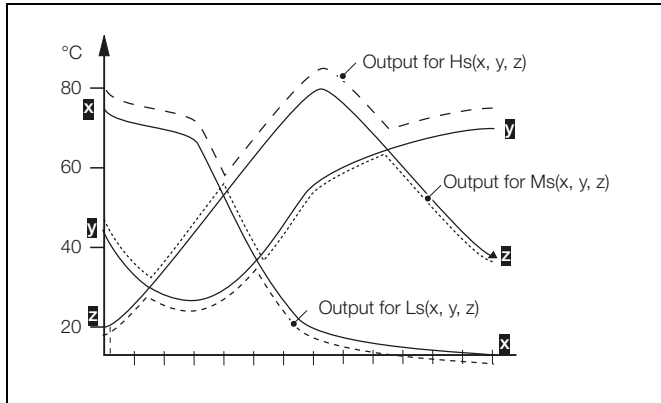

Fig. 2.9 High, Median and Low Select
2.9.6 Switch Functions – Figs. 2.9 and 2.10